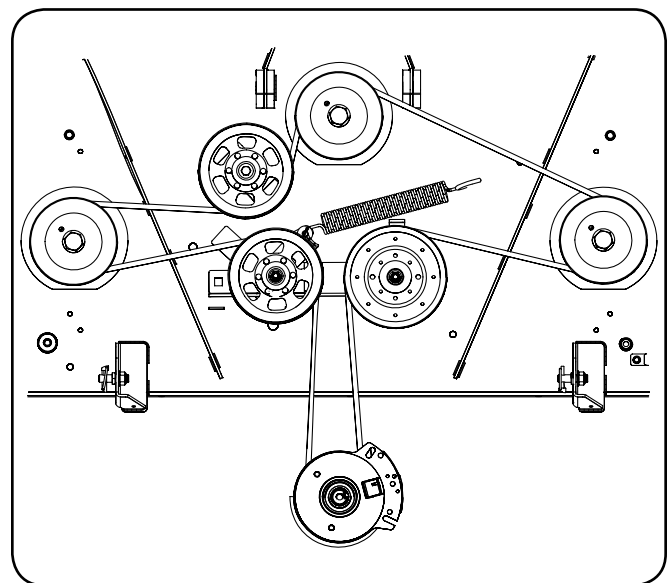

Figure 42
6. Place the belt around the idler pulleys removed in step 3 with the "V" side facing in. Once in place, reinstall all the hardware and tighten the flange lock nut to secure the assembly. See Figure 42.
7. Route the belt as shown in Figure 42 and then reinstall the deck (refer to Deck Installation).